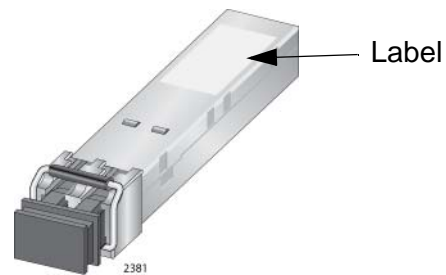

Figure 88. Labels on SFP and CSFP Transceivers
3. To install an SFP or a CSFP transceiver in a slot on the top row of the line card, orient it with the label on top, as shown in Figure 88 on page 151. To install it into a slot on the bottom row of the line card, orient it with the label on the bottom.